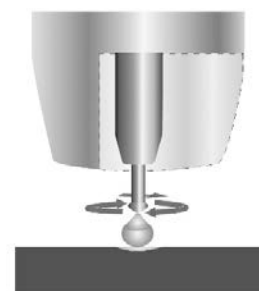

Fig. 31
4. The pinch causes the forming droplet to separate and fall to-wards the now creating weld pool (Fig. 31).